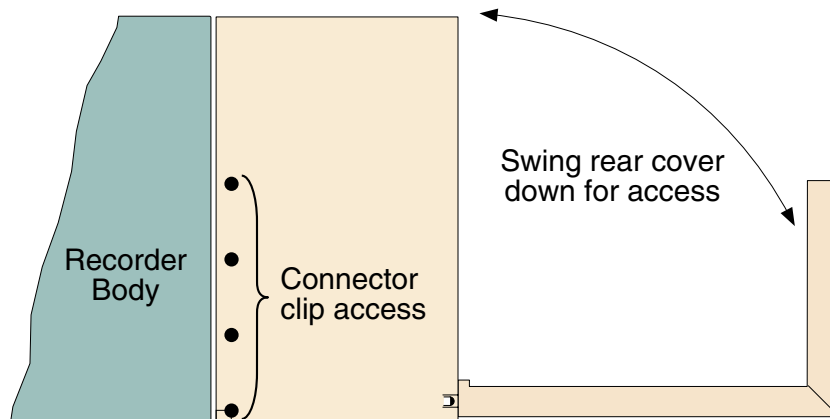
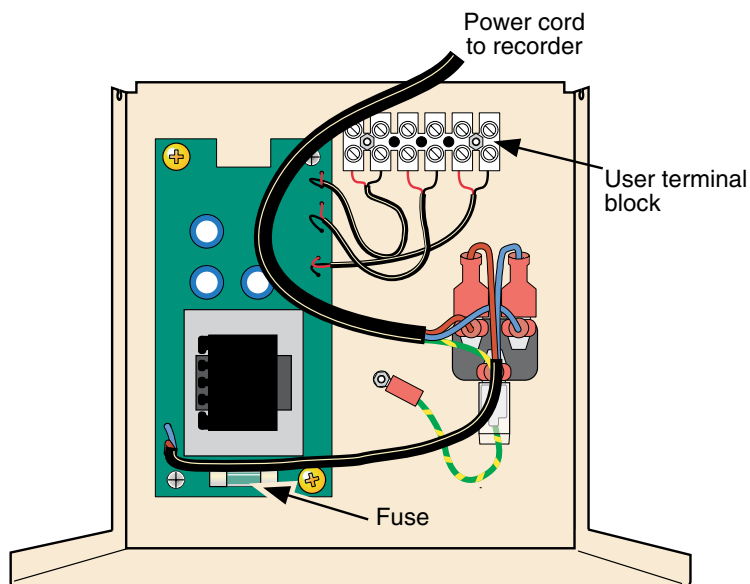

Figure 11.2.2b Opening the rear cover
Figure 11.2.2c Fuse and User terminal block locations.
- 3 Open the cover (figure 11.2.2b) to reveal the circuit board, user connections etc. (figure 11.2.2c)
- 4 The fuse is located as shown in figure 11.2.2c. User wiring to the terminal block (figures 11.2.3a/b) can be carried out now, or the terminal cover can be removed for convenience, as described in steps 5 onwards below.
Note: Four apertures in each side of the terminal cover allow the user to actuate the clips which secure the i/o connectors to the rear panel of the recorder. This allows the i/o connectors to be removed if, for example, the recorder is to be removed from the panel for any reason. The positions of these apertures are shown in figure 11.2.2b (right-hand side shown; left-hand side similar).